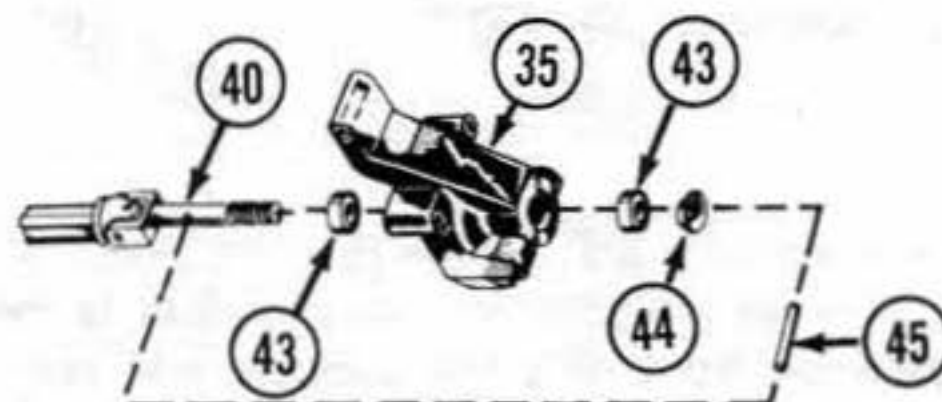

FIG. 21
14. Insert two 3/16 X 3/8 X 1/8" bearings (27) into either side of central hole in hub carrier (35). Fig.21
15. Slide axle shaft (40) through central hole in hub (35) as shown. Fig.21
16. Slide spacer washer (44) down axle (40) shaft and up against bearing (27). Fig.21
17. Secure shaft by sliding 1/16" pin (45) into through hole in axle shaft (40) as shown. Fig.21